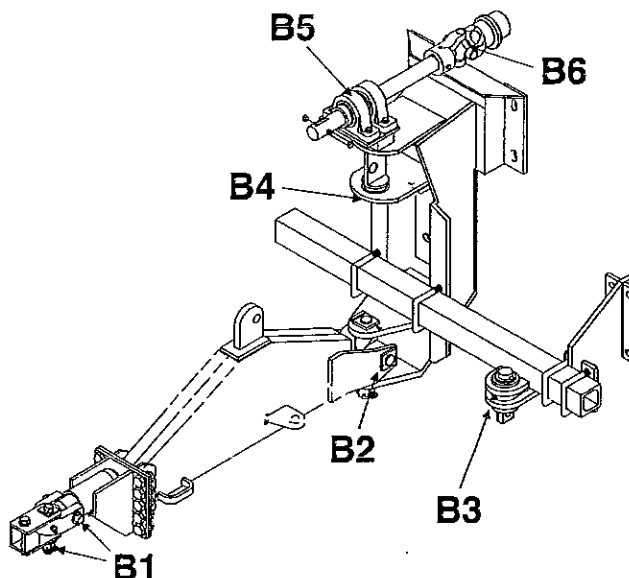

Figure 2.34: Hitch Area.
B. Hitch, input drive and rowfinder - See Figure 2.34.